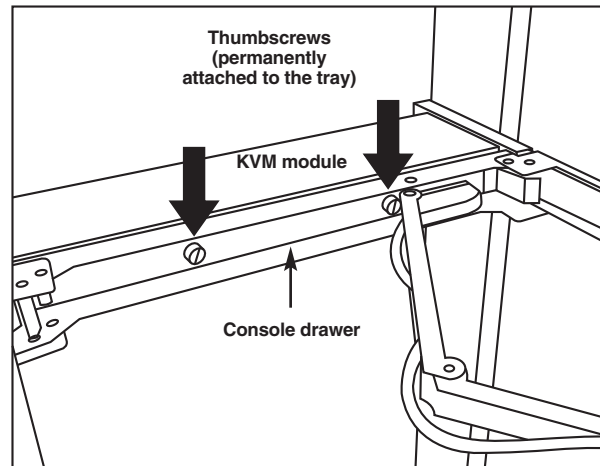

Figure 3-7. Securing the KVM module to the console drawer.
9. Slide out the console drawer. Push the KVM module evenly toward the drawer and secure both units using the attached thumbscrews. See Figure 3-7.